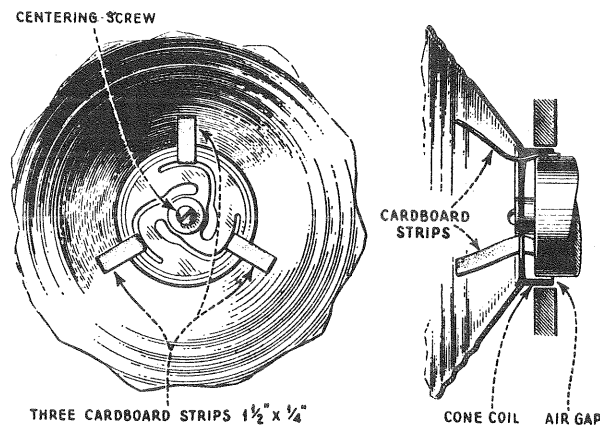

Figure 16—View of Strips in Place for Centering Cone
- (e) Place three pieces of cardboard the thickness of a visiting card and approximately $1\frac{1}{2}''$ x $\frac{1}{4}''$ in size in the space between the inside of the cone coil and the pole piece. See Figure 16.